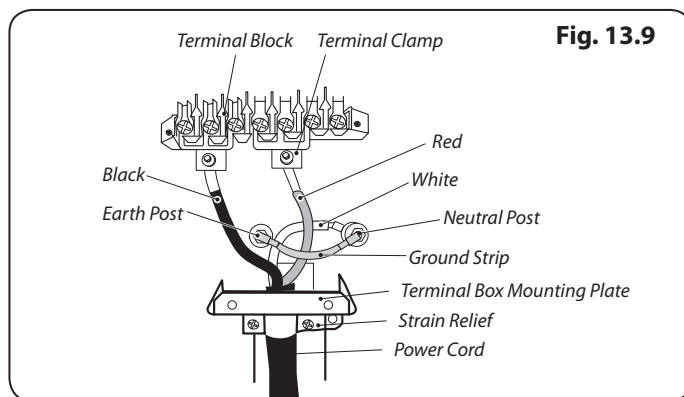

Fig. 13.9
5. Attach the ground strap to the neutral and earth terminal post supplied on the cooker back plate (**Fig. 13.9**). Tighten the fixings to 3 - 4 Nm (2.20 - 2.95 ft lb).
1. Disconnect the supplied power cord from the terminal block, ground and neutral posts. Remove the strain relief clamp from the power cord and strain relief clamp from the terminal box mounting plate (**Fig. 13.9**).
3. Attach a squeeze connector (not supplied) to your conduit (**Fig. 13.10**). Insert the conduit through the terminal box mounting plate (reducer plate fitted). Allow enough cable to connect the wires to the terminal block, earth and neutral posts (**Fig. 13.9**).
4. Attach the ground strap between the earth and neutral posts located as supplied on the cooker back plate (**Fig. 13.9**). Tighten the clamps to 3 - 4 Nm (2.20 - 2.95 ft lb).
5. **NOTE:** Make sure the cord wires are correctly terminated (Please refer to local electrical codes) and assemble correctly onto the terminal block (**Fig. 13.9**). Retighten the security clamps to 3 - 4 Nm (2.20 - 2.95 ft lb).